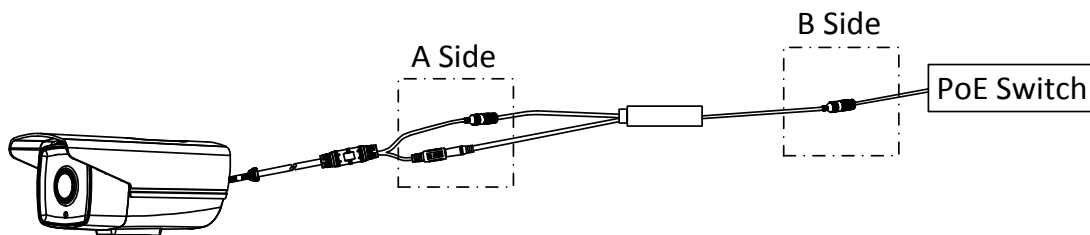

Figure 4-90 PoE Connection
1. Drill the screw hole and cable hole according to the supplied drill template (as shown in Figure 4-90).